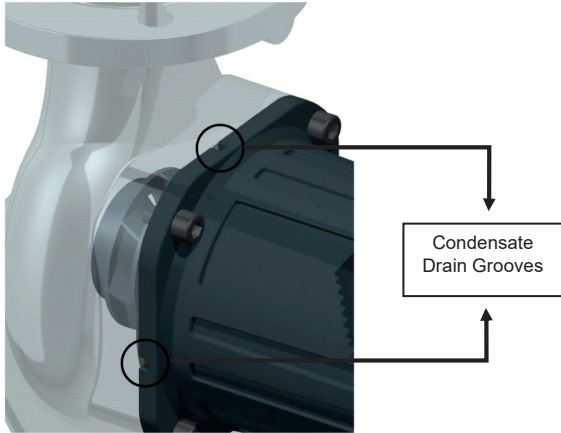

Figure 6.6: Condensate Drain Grooves
- Make sure that the four condensate drain grooves around the pump are open. See Figure 6.6.